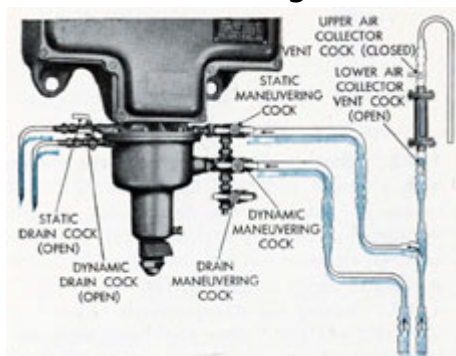

Figure 13-4. Maneuvering cocks and drain cocks positioned to check for clogged rodmer.
**13B1. Testing for obstruction in the rodmeter.** The rodmeter may become clogged with jellyfish, mud, seaweed, or other foreign matter. Consequently the pressure difference will not be normal, and the mechanism will not register correctly. The following test must be performed when the ship is on the surface. Position the valves and vent cocks as shown in Figure 13-4. If a full stream of water does not flow from both drain cocks, it is an indication that the line not flowing is clogged.